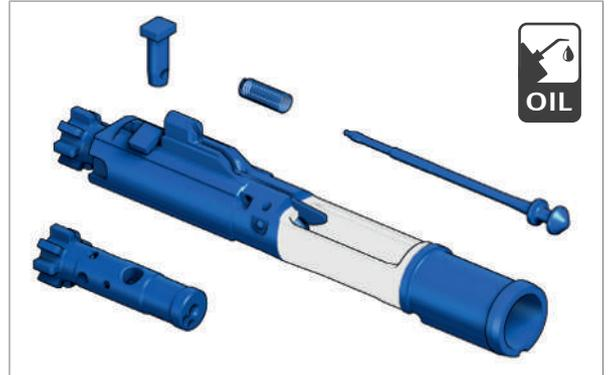

Fig. 115: Lubrication points of bolt group
2. Lubricate lubrication points of bolt group. (Fig. 115).